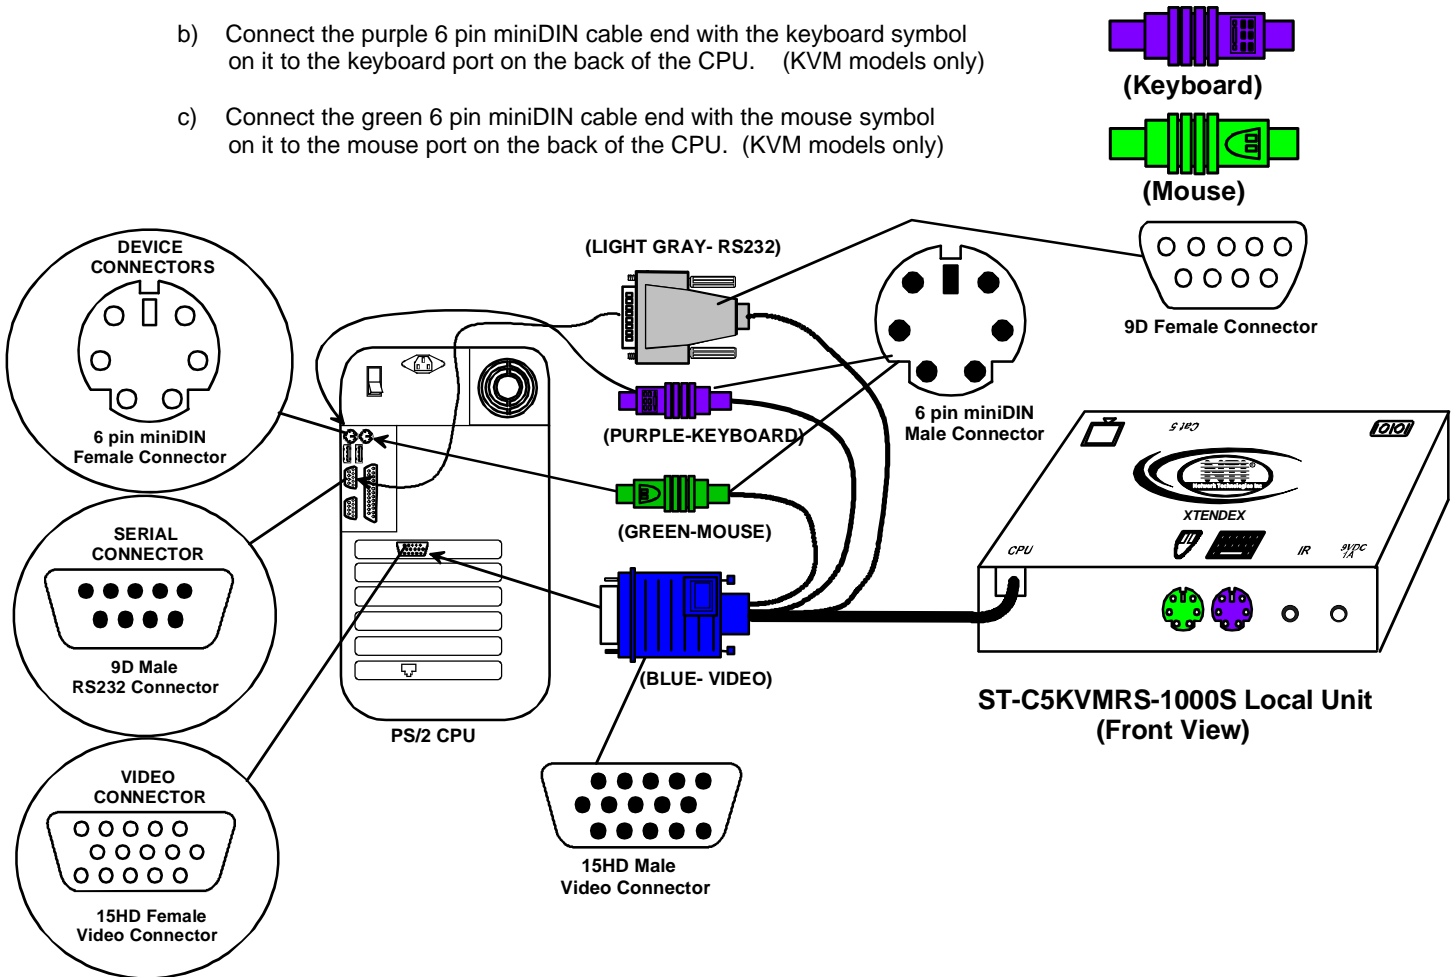

Figure 1- Connect the Local Unit with VGA video and RS232 support to the CPU
1. Plug the cables of the Local Unit into the back of the CPU. (See Fig. 1.)